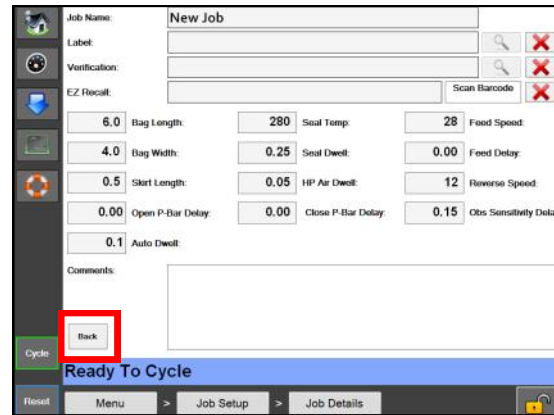

Figure 77C. Job Details Screen.
6. Press the back button. **Figure 77C.**